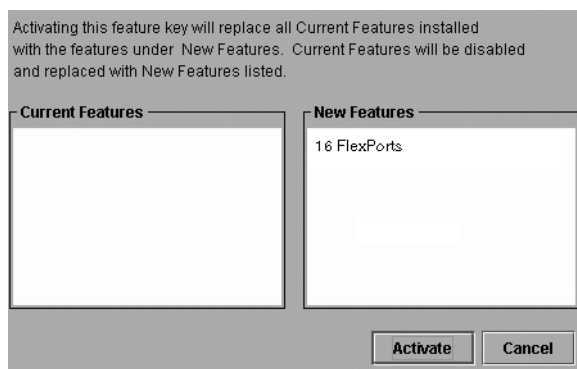

Figure 4: Enable Feature Key dialog box
3. In the **New Feature Key** dialog box, type the switch's feature key and click **OK**. The **Enable Feature Key** dialog box displays (Figure 4).